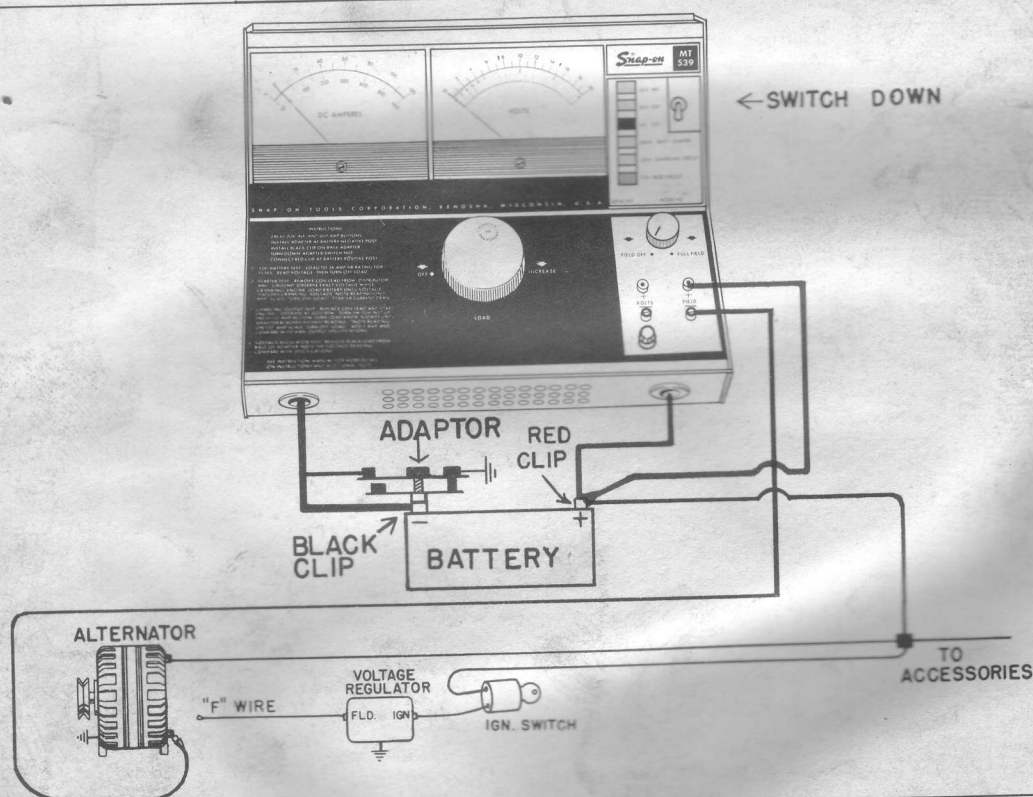

Figure 6 — Connections for Alternator Tests. Negative Post Hook-up.
4. Connect the red clip to the opposite battery terminal. (See figures 6 and 7.)